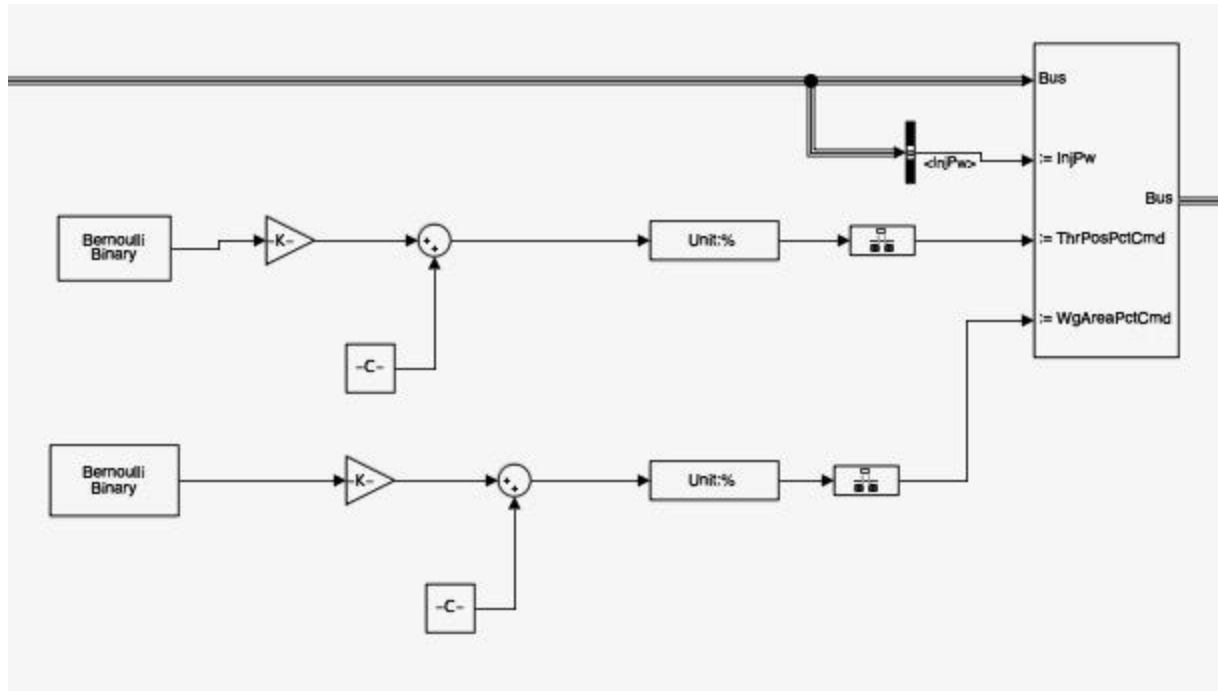

Figure 3: Bernoulli Binary Generator Implementation
- Note: Figure 3 above appears to have two different PRBS signals, one going into the throttle command and one going into the wastegate command, but one should be set to wide open (100%) with no wiggle, while a PRBS will be sent into the other actuator. These values can be changed in the RunMe.m script (ThrB, ThrW, WgB, and WgW variables).